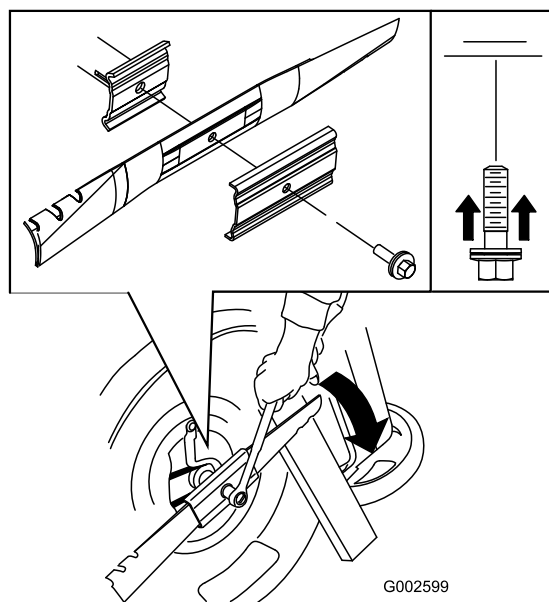

Figure 30
5. Install the new blade (turn the blade bolt clockwise) and all mounting hardware (Figure 30).